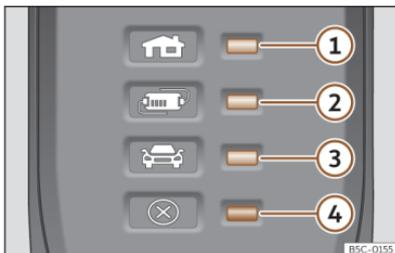

Fig. 77 On the charging cable for power sockets: Indicator lamps on the protection device.
>>> **Fig. 77:**
The electronic protection device >>> **Fig. 77** ensures that the charging connector does not receive current until it is plugged in to the vehicle's charging connector.
One or more control lamps >>> **Fig. 77** ①, ② or ③ light up green.
Display >>> Fig. 77	Meaning
①, ④ flashing	The housing connector has overheated.
②, ④ flashing	The protection device has overheated.
If the charging process continues with a lower current, both the operating indicator and the warning lamp >>> **Fig. 77** ④ flash red.
- If it disconnects again, or the charging current reduces and the cause does not seem to be exposure to an external heat source, make sure that the green control lamp is flashing >>> **Fig. 77**. Visit a specialised CUPRA dealer or any SEAT network dealer to check the charging cable. Get an establishment that specialises in electrical installations to check the infrastructure connection.
If the red warning light ④ flashes or turns on without one of the indicator lamps >>> Fig. 77 ①, ② or ③ also turning on continuously on the status indicator, there is a fault.